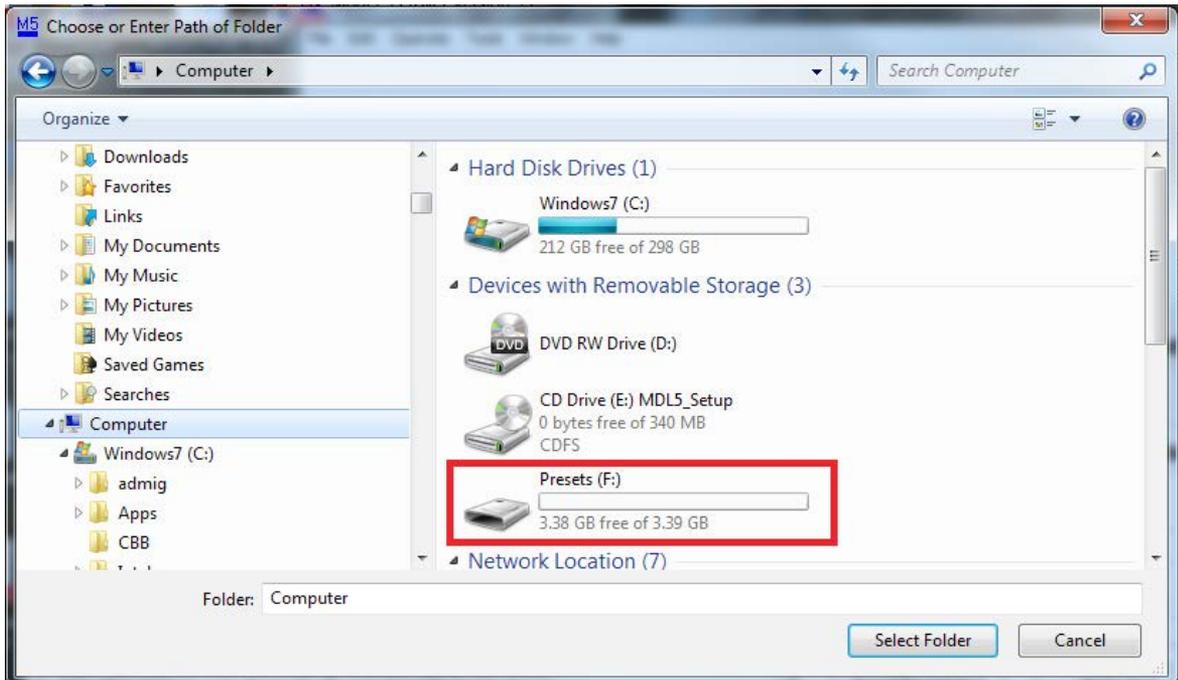

Figure 49: Select Media Location
2. A new window will open. With the media still in the computer, double click on the folder entitled “Presets” as shown in **Figure 49**. The prover ID number may be listed.